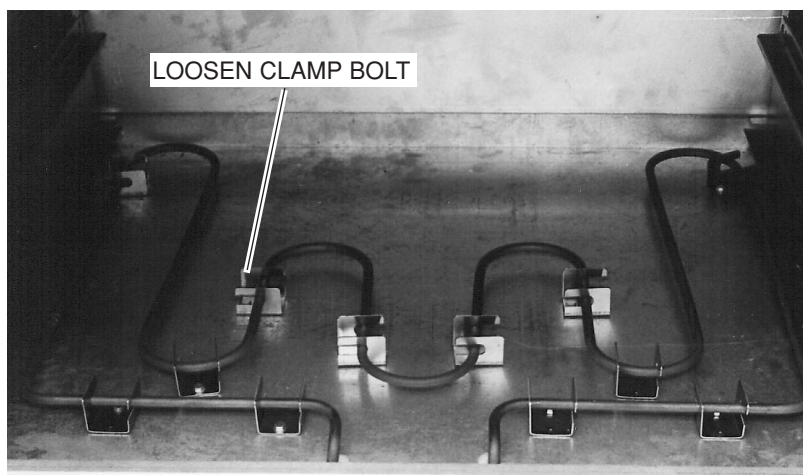

Fig. 36
2. With a $\frac{5}{16}$ " socket, loosen (12) element mounting clamps. (Fig. 36)